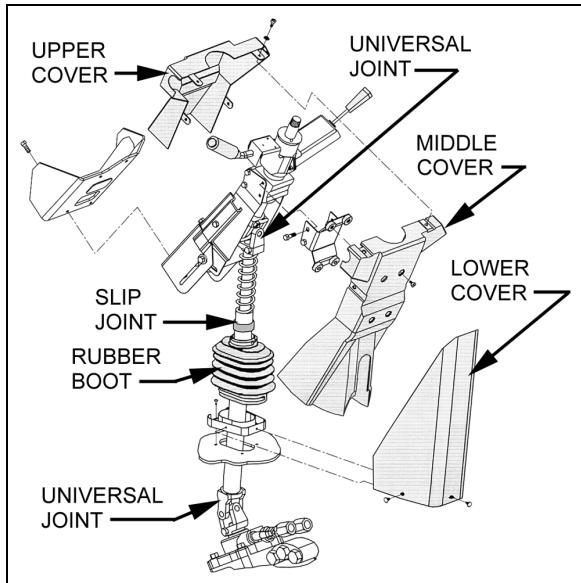

FIGURE 8: STEERING COLUMN COVERS
- From the front driver's compartment area, remove the three plastic fasteners on steering column lower cover. Remove the lower cover (Fig. 8).
2. Remove the 2 clockspring mounting screws and then remove the clockspring. You will have to disconnect the clockspring harness connector located lower along the steering wheel column. If necessary, remove the steering column covers (Fig. 8).